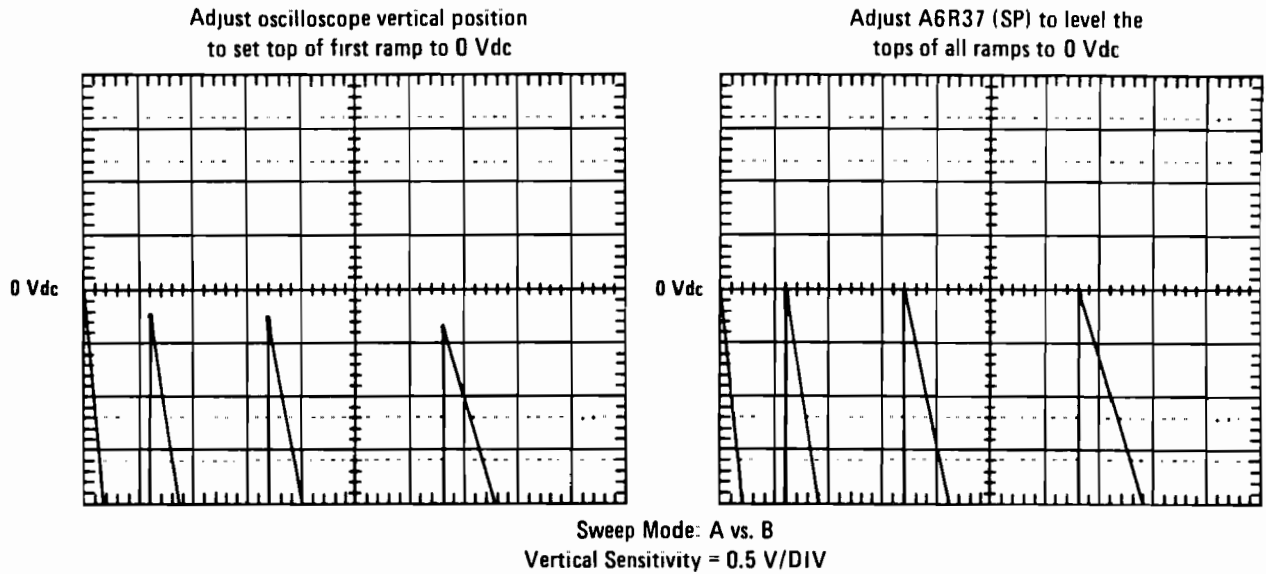

Figure 5-4. Sweep Control Adjustment Waveforms
21. Adjust the oscilloscope vertical position control to set the top of the first full 0 to -10 volt sweep ramp on the centerline as shown in Figure 5-4.
22. Adjust A6R37 (SP) to bring the tops of the remaining 0 to -10 volt sweep ramps to the center graticule as shown in Figure 5-4.